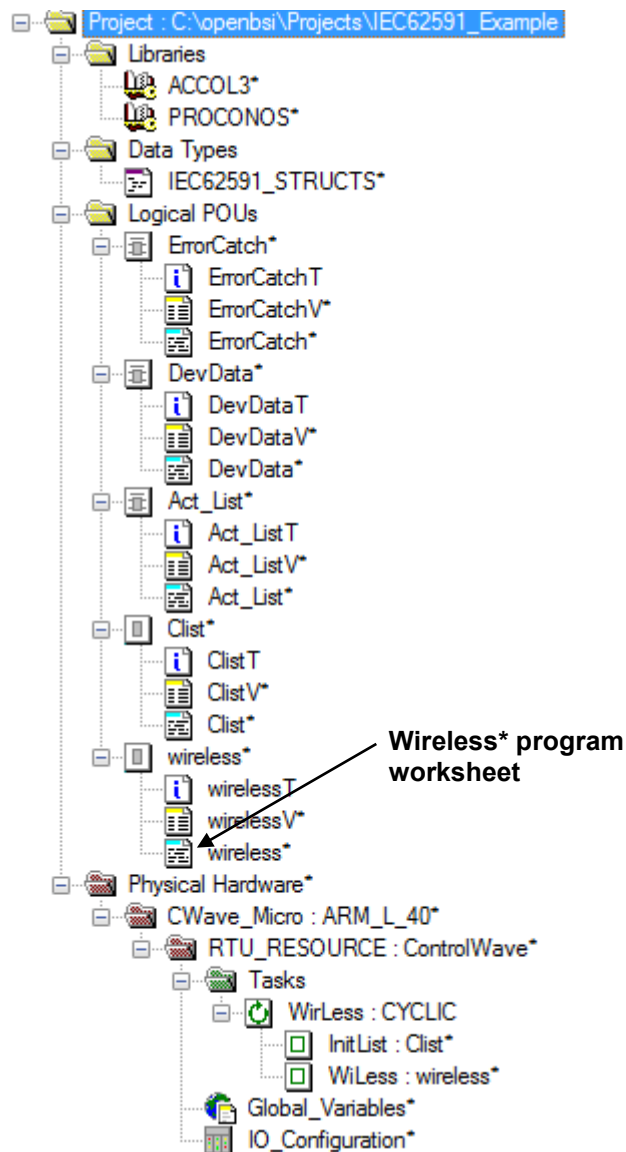

Figure 4-2. IEC 62591 Example – Project Tree
3. If not already there, navigate to the OpenBSI/Projects area and open the file IEC62591_Example.mwt. When you open the project, you can see the project tree. (See *Figure 4-2.*)